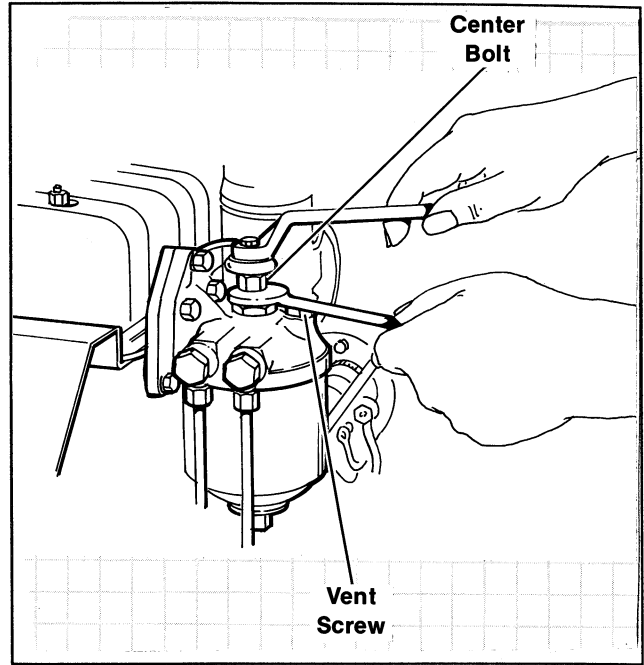

Figure 3-2. Fuel Filter- Perkins
1. Loosen center bolt holding canister to filter head, see Figure 3-2; lower canister to remove.